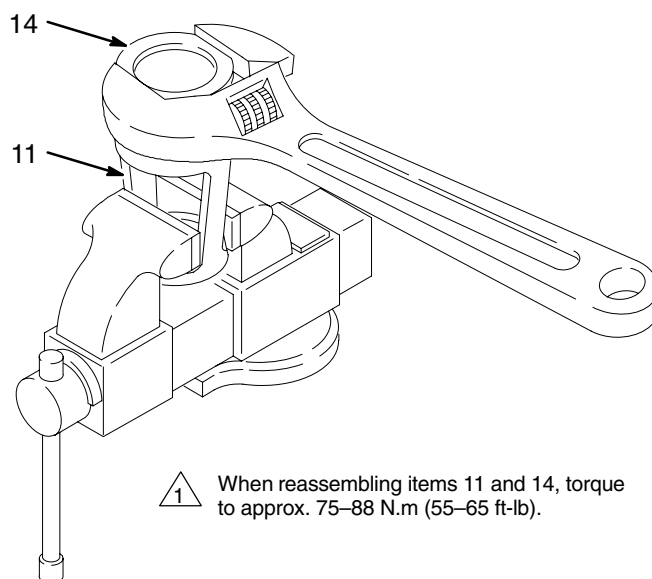
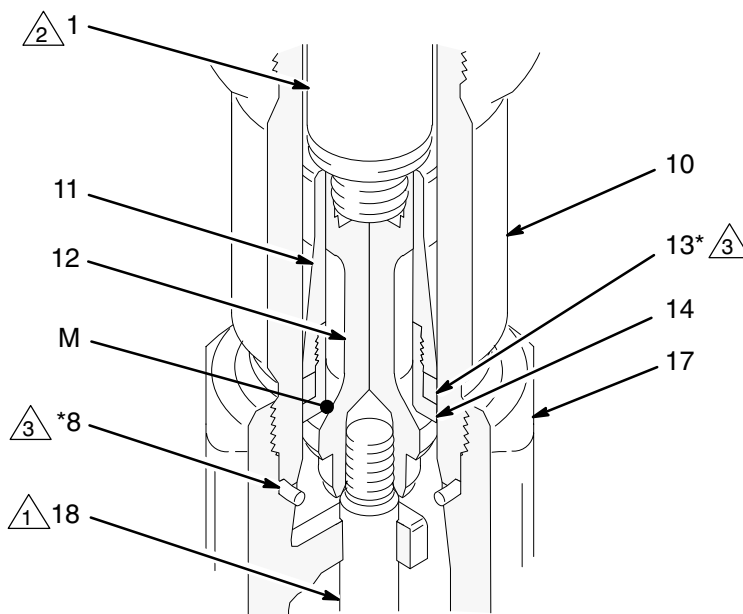

Fig. 9
Fig. 10
9. Remove the seal (8) from the bottom of the cylinder (10). See Fig. 10. Shine a light into the cylinder to examine the inside surface for scoring or damage. **Only if the cylinder is damaged, or there is evidence of leaking around the top cylinder seal (8),** unscrew the cylinder from the outlet housing, using a pipe wrench. Remove the top cylinder seal.
10. Place the flats of the displacement rod (1) in a vise. Unscrew the piston (12) from the displacement rod; the priming piston rod (18) will come with it. Slide the piston guide (11) and seat (14) off the piston (12).
11. It is not necessary to remove the priming piston rod (18) from the piston (12) unless your inspection reveals damage to either part. To disassemble, place the piston flats in a vise and unscrew the rod.
12. Place the piston guide (11) in a vise, as shown in Fig. 9. Using an adjustable wrench, unscrew the piston seat (14) from the guide. Remove the seal (13); always replace it with a new one. Inspect the mating surfaces (M) of the piston (12) and piston seat (14) for damage or wear. See Fig. 10.
2. With the beveled side facing up, press the intake valve seal (39\*) into the recess of the intake valve packing nut (15) until it snaps into place. The nose of the seal should be flush with or slightly recessed into the face of the packing nut.
3. Place the flats of the valve body (16) in a vise. Screw the packing nut into the valve body hand-tight. Set the intake housing assembly aside.
4. Lubricate the piston seal (13\*) and install it on the piston seat (14). Screw the piston guide (11) onto the seat (14). Place the guide in a vise as shown in Fig. 9 and torque the seat to 75–88 N.m (55–65 ft-lb).
5. If it was necessary to remove the priming piston rod (18) from the piston (12), place the flats of the piston in a vise. Using an adjustable wrench on the flats of the rod, screw the rod into the piston. Torque to 125–137 N.m (92–101 ft-lb). Be careful not to create burrs on the flats of the rod.
6. Place the piston seat/guide assembly onto the piston (12) so the 45° beveled seating surfaces match. Screw the displacement rod (1) into the piston (12) hand tight, then torque the rod to 339–359 N.m (250–265 ft-lb).